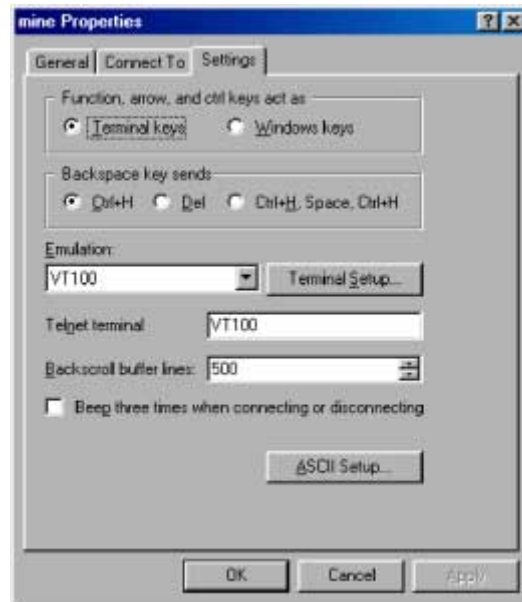

Figure 16. Terminal keys configuration
8. Configure the settings for *Function, arrow and ctrl keys act as* to *Terminal keys* as shown in figure 16.